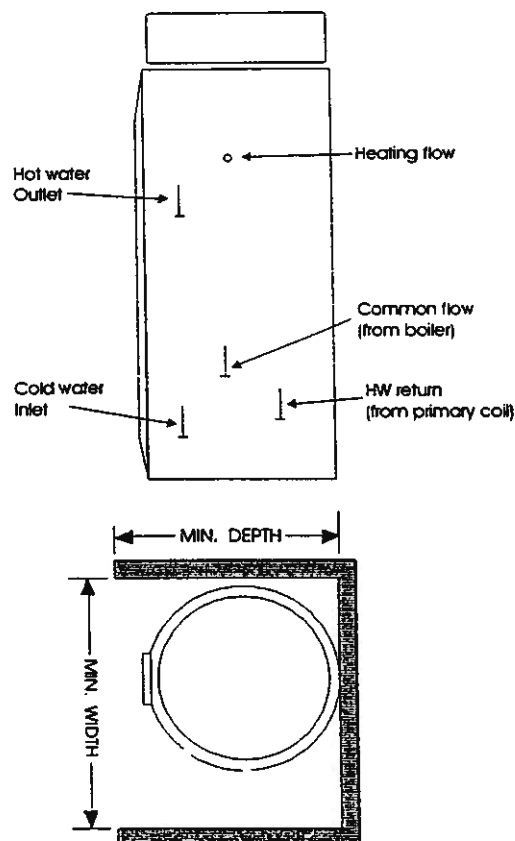

Figure 3.1 SystemeMate III Connection arrangement
- Make all water connections in accordance with the labelling on the thermal store and the associated pipework as shown in Figure 3.1.